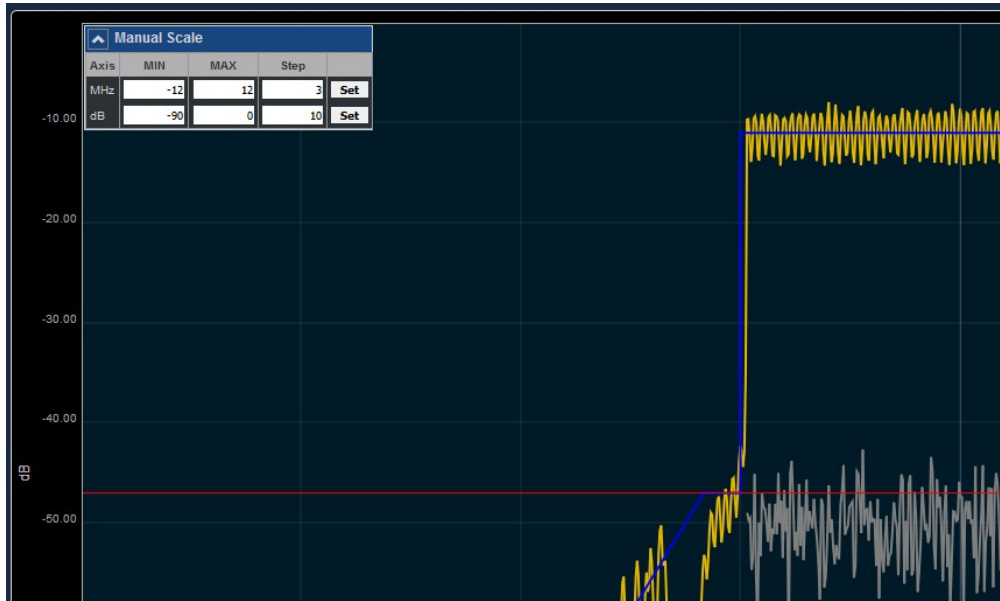

Figure 24. Manual Scale
- “Manual Scale” tool is a convenient way for adjusting Min/Max and Step (unit per division) values for a plot. See Figure 24.